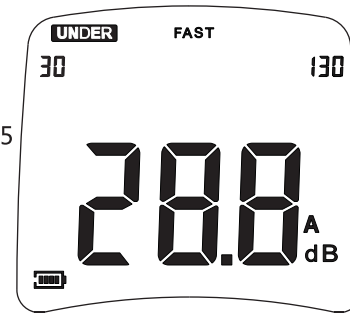

Figure 5
- If the current sound level is under 30dB, the LCD will display **UNDER** to indicated the current Lp is under measurement range, as figure 5: